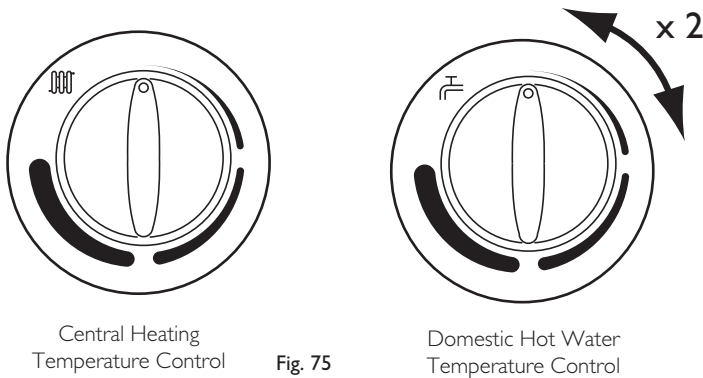

Fig. 75
3. Turn both control knobs fully anticlockwise, then quickly turn the right hand knob $\frac{1}{4}$ clockwise twice and back fully anticlockwise (Fig. 75).